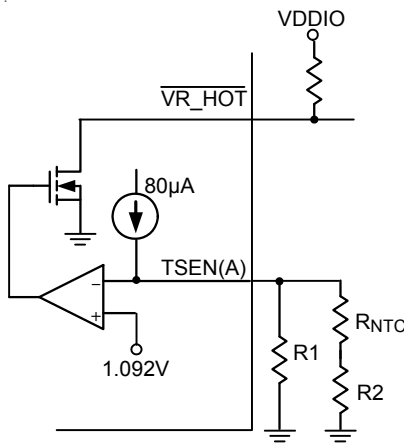

Figure 8. VR_HOT Circuit
The VR_HOT signal is an open-drain signal which is used for VR thermal protection. When the sensed voltage at TSEN(A) pin is less than 1.092V, the VR_HOT signal is pulled-low to notify CPU that the thermal protection needs to work. According to Intel VR definition, VR_HOT signal needs acting if VR power chain temperature exceeds 100°C. Place an NTC thermistor at the hottest area in the VR power chain and its connection is shown in Figure 8, to design the voltage divider elements (R1, R2 and NTC) so that VTSEN(A) = 1.092V at 100°C. The resistance error of TSEN network is recommended to be 1% or smaller.